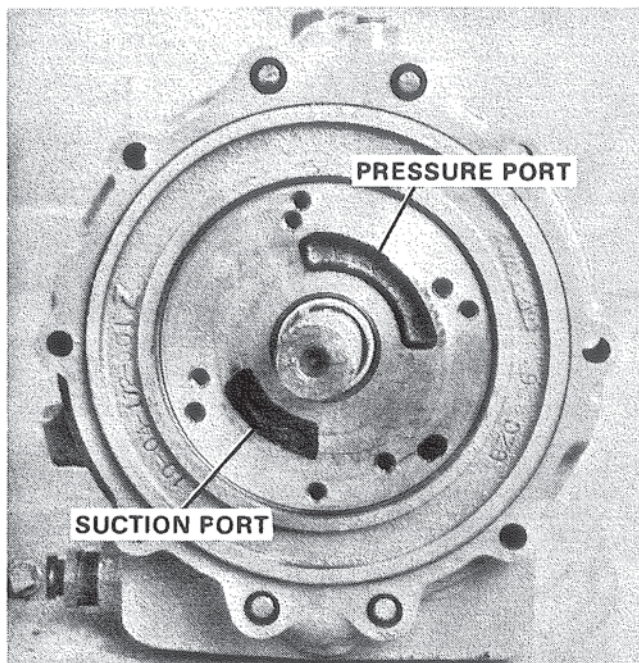

Figure 77. Mounting Adapter to Case.
3. When the shoulder on the rear of the adapter has entered the mating bore in the reverse clutch cavity, located in the front of the transmission case and a check of the gap between case and adapter indicates the adapter is squarely in place, install the four (4) cap screws. Figure 77. The adapter can now be pulled down squarely, until contact with the case is made, by alternately tightening the cap screws a small amount and checking frequently for binding. When adapter is pulled down as far as possible, tighten the four (4) cap screws to 27 - 37 ft. lbs. (3.72 - 5.10 kg/m).
The front pump assembly without the backing plate can only be used with the new (71C-A8) adapter, Figure 77, the new key (4873), and the new version of the drive gear with the relocated pump keyway.